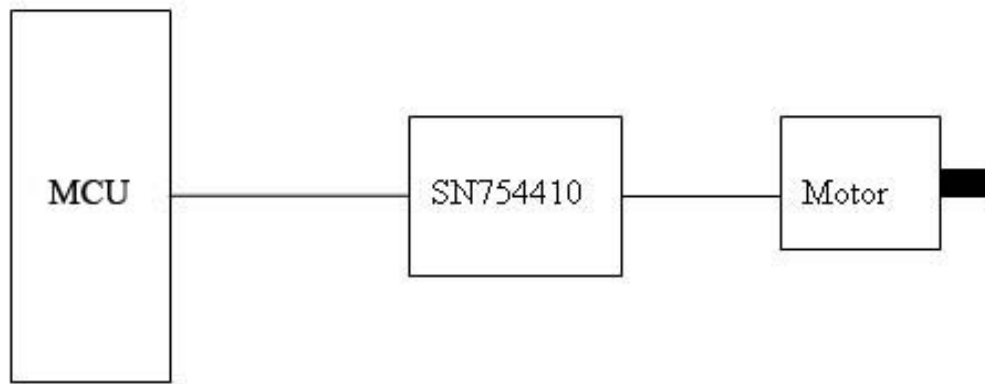
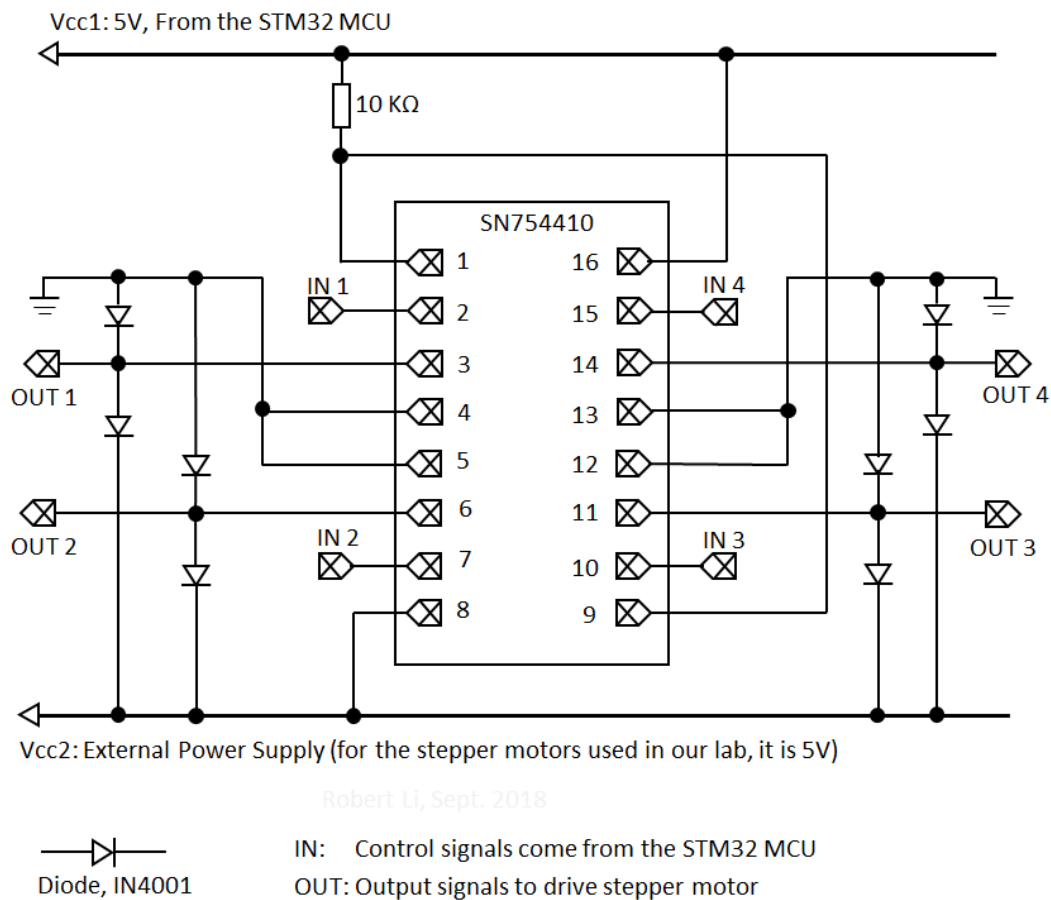

Figure 1: Block Diagram
Figure 2: Schematic Diagram for Connecting H-Bridge
A sequence of signals will be generated using a timer of the STM32L476 MCU to control appropriate switches in the H-bridge. The outputs of the H-bridge will be connected to the four terminals of the motor. A block diagram of the equipment arrangement is shown in Figure 1.
Figure 2 shows a schematic diagram of the connections to the H-Bridge (SN754410).
2. Complete the breadboard circuit according to the schematic diagram given in Figure 1 and Figure 2.